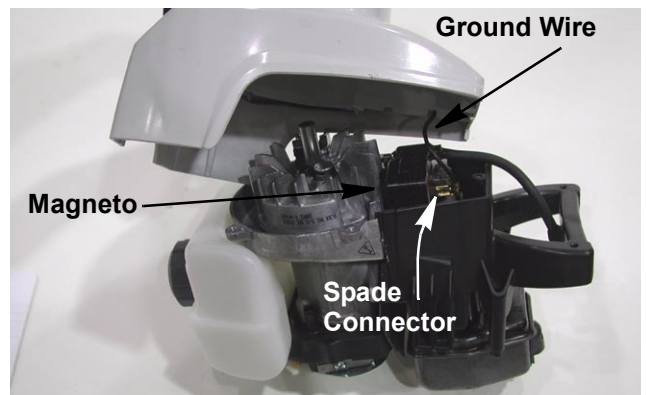

FIGURE 5
9. Lift the starter housing away from the engine far enough to gain access to the ground wire that connects the magneto to the ON-OFF switch. See Figure 5.